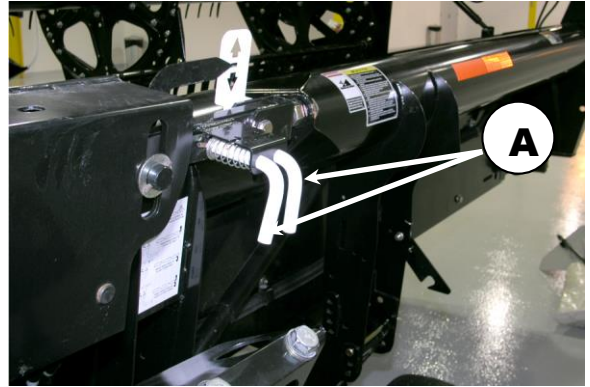

Fig.1 Wing Lock Pins –Wings Locked
- Lock wing pins on both wings (see Fig.1).